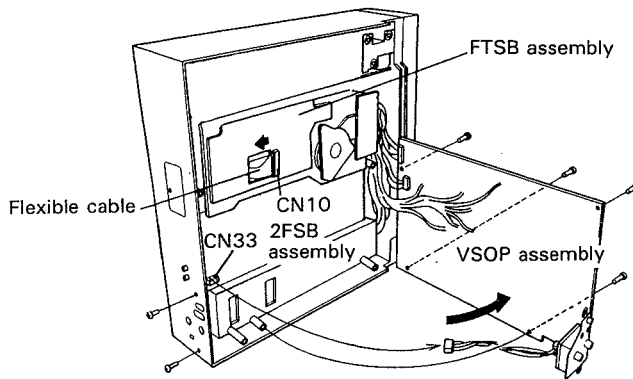

Fig.3
4. Stand the unit on its side with the power transformer at the bottom. Undo the four VSOP assembly screws and the two rear panel screws. Open the VSOP assembly and disconnect CN33 from the 2FSB assembly. (Fig.3)
Stand the player on its side as shown in Fig.3. The grating can be adjusted by inserting a small screwdriver through the gap between the mechanical assembly and the 2FSB assembly. (Figs.9 and 10)